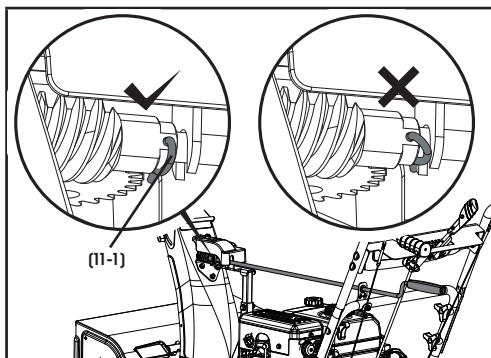

Figure 11B
3. Align the lever and the gear, and then connect the R-clip (11-1). (Fig. 11B)
Ensure the R pin is positioned as shown in Fig. 11B.